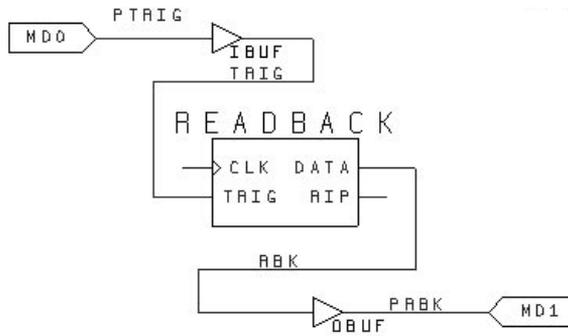

Figure 10-2 Readback Symbol Connections
Figure 10-2 shows a detailed view of the READBACK symbol and its connections.
* If you do not use the MD0 and MD1 pads in your READBACK symbol shown in Figure 10-2, connect the XChecker RT and RD signals to the appropriate jumpers near the FPGA on the board. The RT pin connects to the pin that you assigned to the TRIG pin on the READBACK symbol while the RD pin connects to the pin that you assigned to the DATA pin. For information on which pins to use for verification or debugging, refer to the “Connecting Your Cable” chapter.